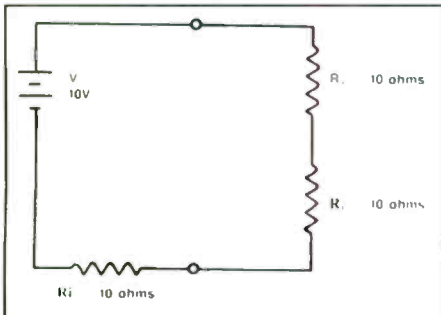

Figure 1. In this circuit, what value of R1 will result in the greatest power dissipation?
5. In the circuit of Figure 1, what value of R₁ will allow it to receive maximum power from the supply?